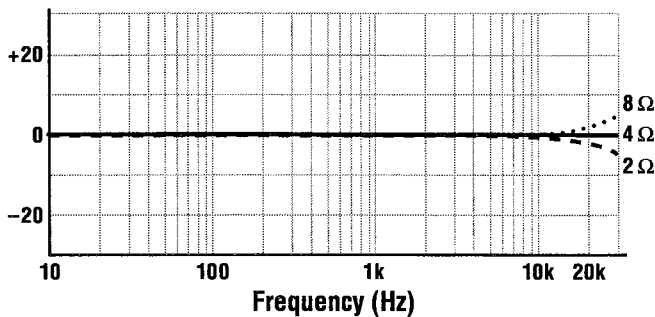

Figure 6. Frequency responses of a Beta Digital amplifier with both channels driving loads of 2, 4, and 8 ohms.
- The Beta Digital 300/100/50 is designed to operate into an optimum load of 4 ohms for the flattest frequency response (see Figure 6). Using other loads (e.g., 8 or 2 ohms) does not present a problem, but will slightly alter the highest frequencies.